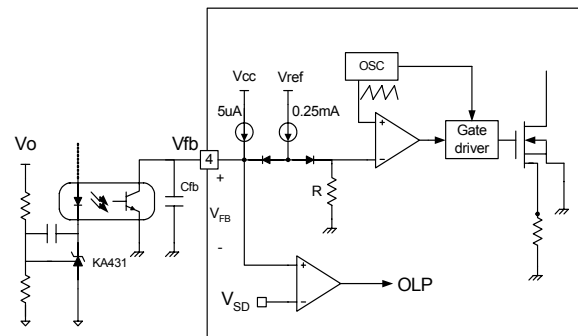

Figure 8. PWM and Feedback Circuit
2. Feedback Control : The FSD200B/210B are voltage mode controlled devices as shown in Figure 8. Usually, an opto-coupler and KA431 type voltage reference are used to implement the feedback network. The feedback voltage is compared with an internally generated sawtooth waveform. This directly controls the duty cycle. When the KA431 reference pin voltage exceeds the internal reference voltage of 2.5V, the optocoupler LED current increases, the feedback voltage Vfb is pulled down and it reduces the duty cycle. This will happen when the input voltage increases or the output load decreases.